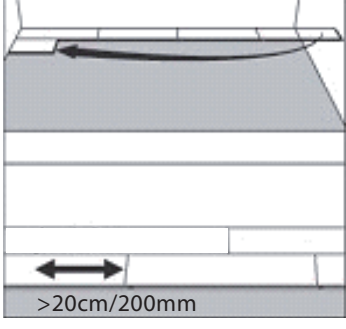

Figure 2
- 5. Cut the final board piece to length, never less than 30cm/300mm. (figure 2)
- 2. Position the long side of the first board in place overlapping the groove of the planks in the previous row by approximately 3mm. Then angle the end joint into the previous plank. Angle the plank up and gently push forward until the plank locks into the previous row. (figure 2) Slide the board to the left/right as necessary to align the edges of the end joint.
- 7. Whenever practical, use cut pieces from previous rows as the starter board to reduce waste. (figure 2)
- 8. Maintain 30cm/300mm spacing between end joints after the first four rows for best appearance. (figure 2)